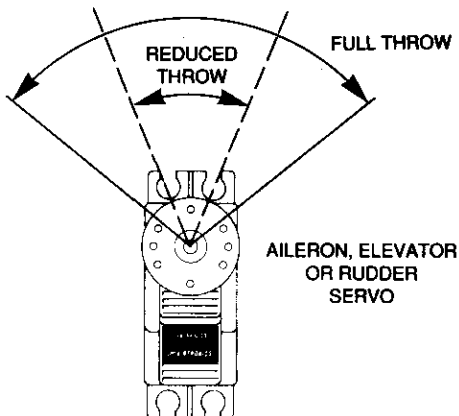

FIGURE 16
Dual rates are adjustable within the ranges shown in Figure 16, using the D/R trimmers under the front panel. D/R throws are activated using the aileron, elevator or rudder D/R switches (19) (20) or (31) respectively.